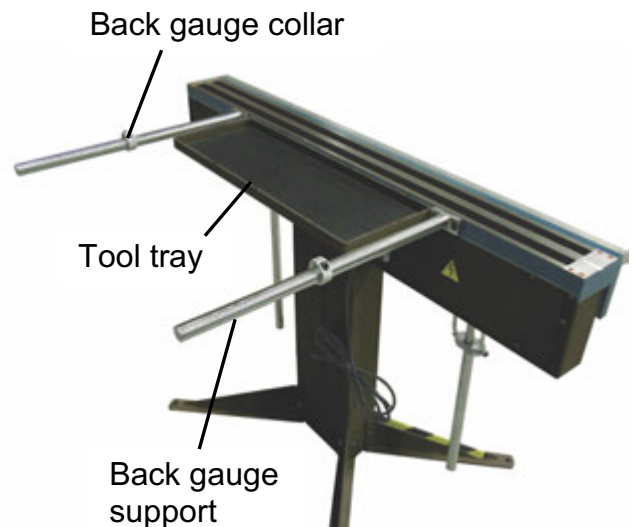

figure 4
1. Using (3) M8x12 socket cap screws attach the tool tray to the back of the brake.
3. Attach each back gauge bar to the brake with (2) M8x16 socket capscrews.
5. Slide a back gauge collar onto each bar as shown in (fig. 4).